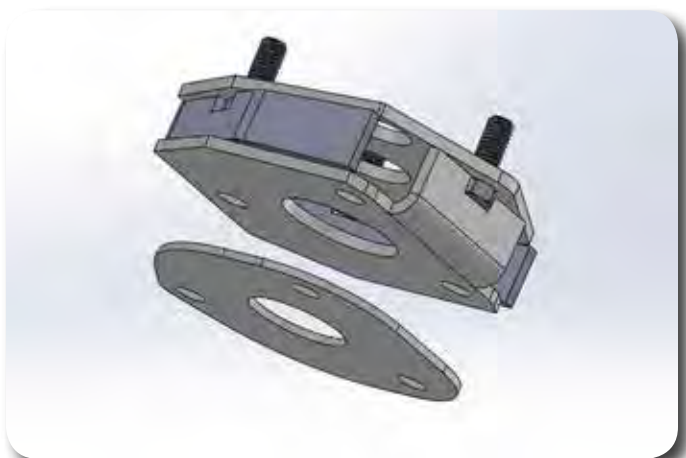

Figure 3
11. Install the bushing preload plate on top of the strut assembly between the strut and spacer. Install on all vehicles even if the strut bushing does not protrude. Fig 3